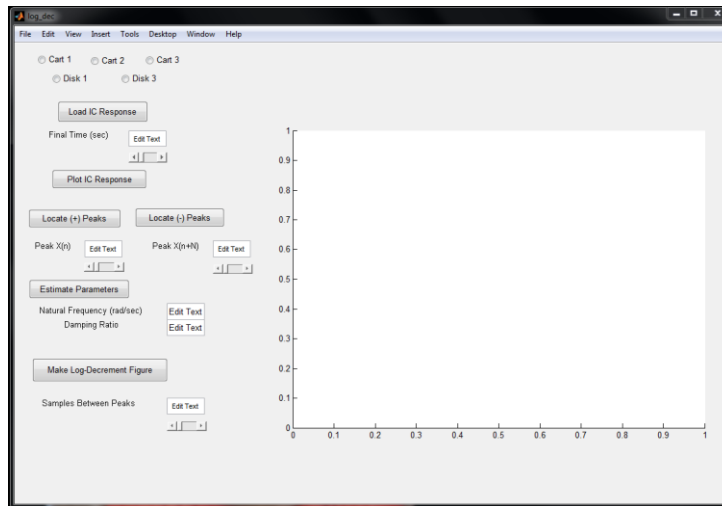

Figure 8: Log Decrement GUI Tool
8. Run the m-file **log_dec.m** that and the GUI in Figure 8 should open.